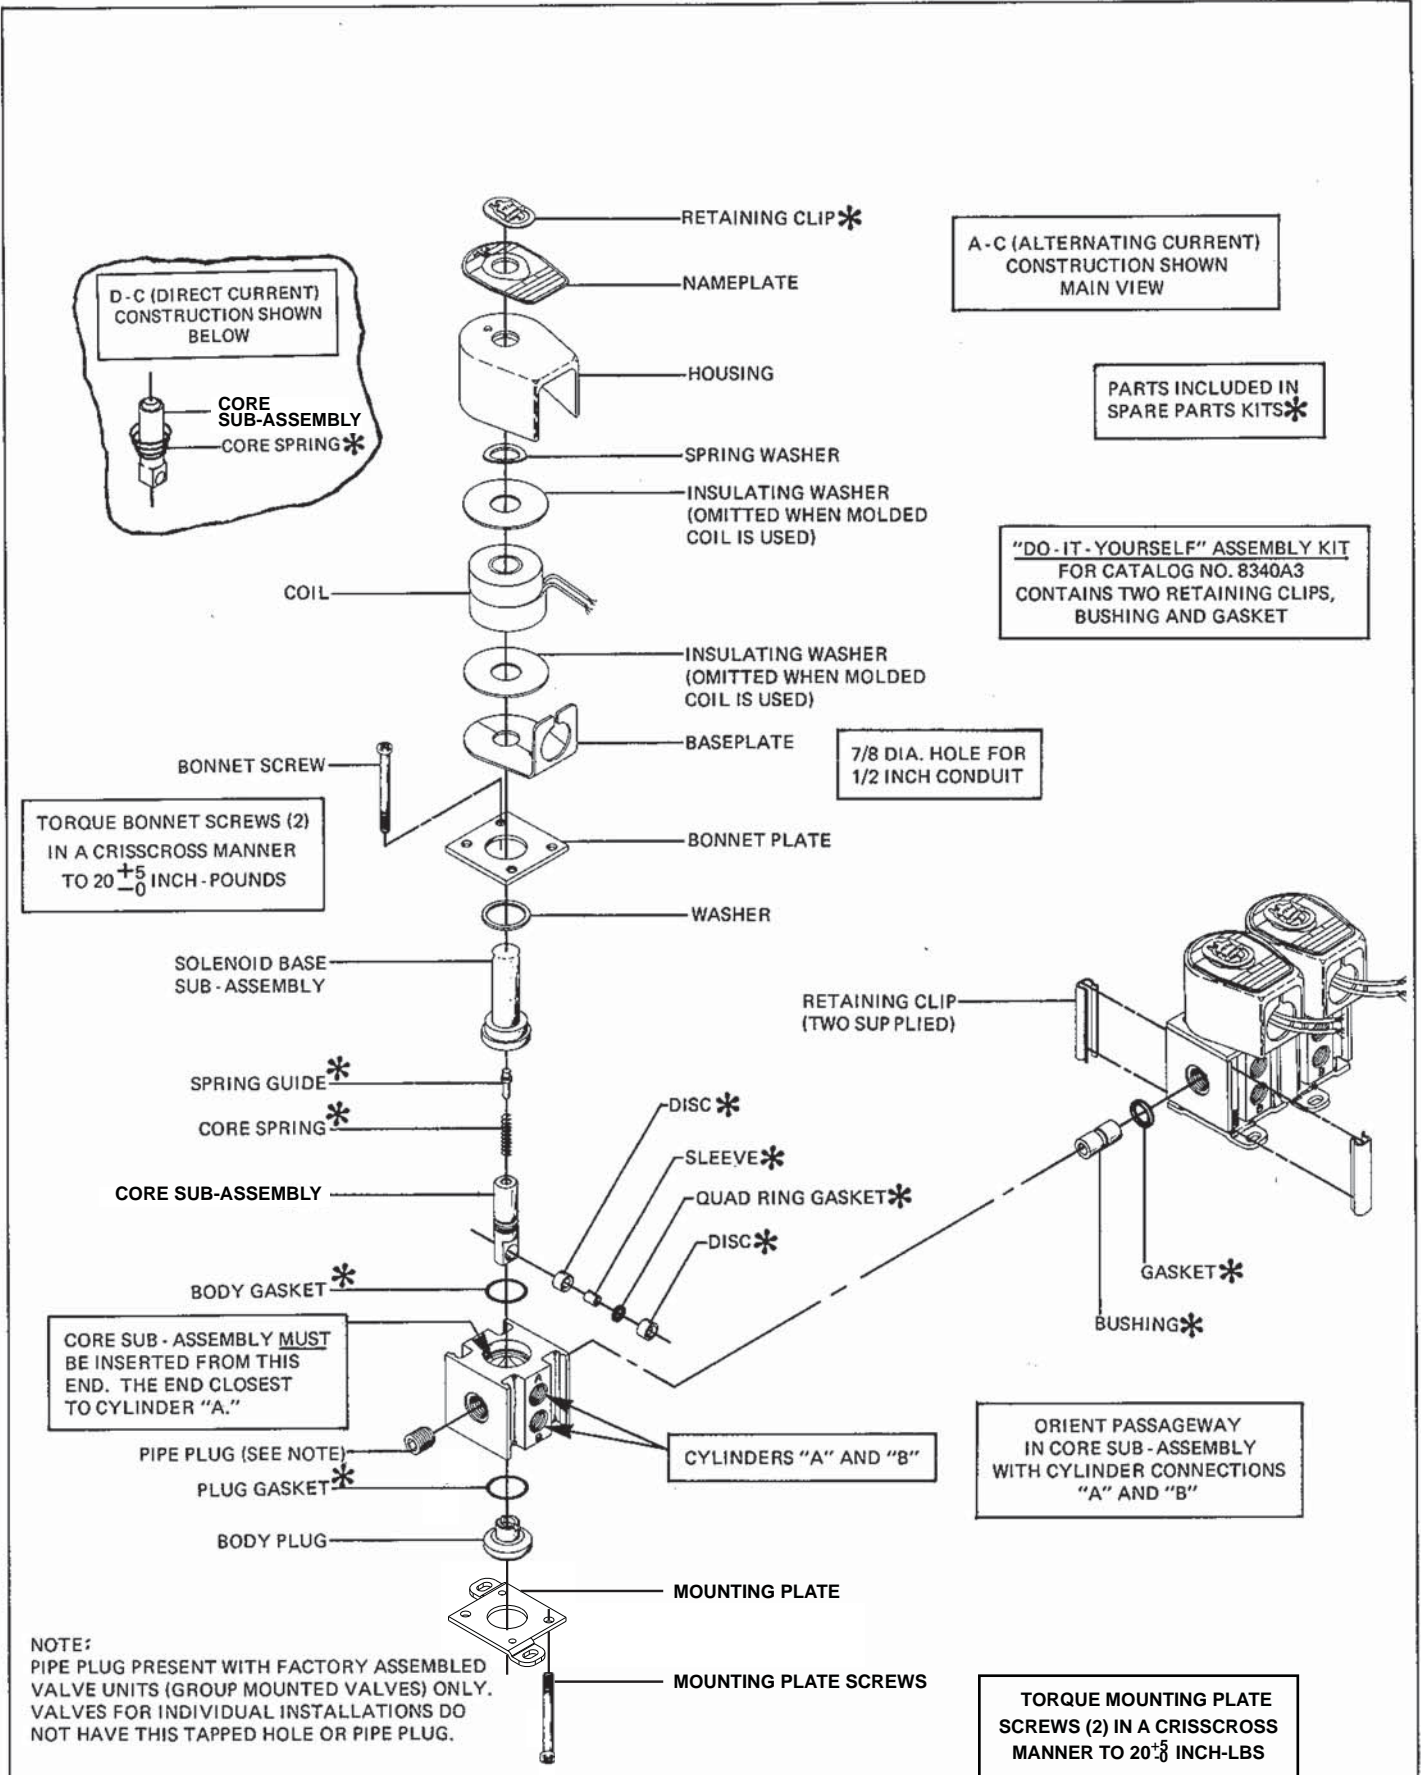

Figure 2. Bulletin 8340
Group Mounting of Valves in the Field (Refer to Figure 2)
1. Disassemble valve in an orderly fashion using exploded views for identification and placement of parts. Refer to Figure 2.
Valve Reassembly (Refer to Figure 2)